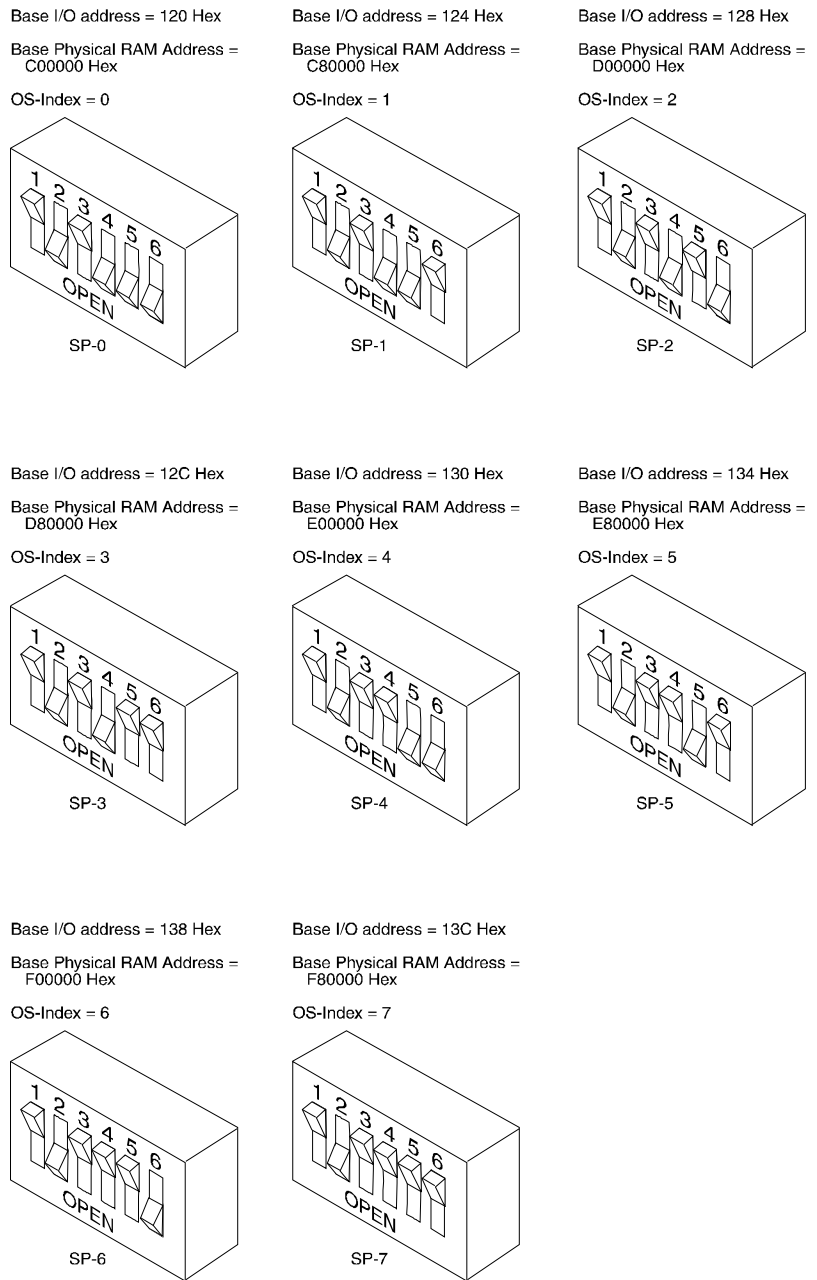

Figure 5-22. Switch Settings for Signal Processor (AYC2C) and Text-to-Speech (AYC9) Circuit Cards 0 through 7
You must set one bank of switches on the SP circuit card. Set the switches as shown in Figure 5-22 for the correct I/O address switch settings for cards SP-0 through SP-7.
Notice in Figure 5-22 that the switches are numbered one (1) through six (6). Switch 1 is a no-option switch. This means its setting is not important. The figure shows this switch as open, but it does not matter if it is open or closed. Switch 2 must be closed. Switch 3 must be open. Figure 5-22 also displays the OS index number for the corresponding switch settings. The INTUITY CONVERSANT system uses this index to identify each SP card.
You must set one bank of switches on the TTS circuit card. Set the switches as shown in Figure 5-22 for the correct I/O address switch settings for cards TTS-0 through TTS-7.
Notice in Figure 5-22 that the switches are numbered one (1) through six (6). Switch 1 is a no-option switch. This means its setting is not important. The figure shows this switch as open, but it does not matter if it is open or closed. Switch 2
must be closed. Switch 3 must be open. Figure 5-22 also displays the OS index number for the corresponding switch settings. The INTUITY CONVERSANT system uses this index to identify each SP card.